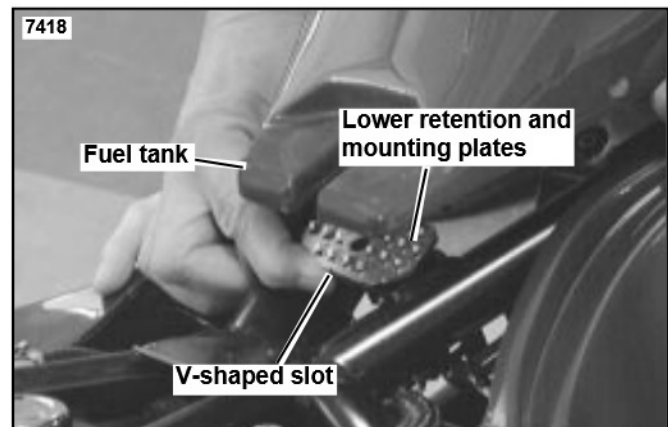

Figure 8. Bottom Plate
18. See Figure 8. Carefully raise the back of the fuel tank and place mounting plate and the lower retention plate in position on the frame. It is important that the prongs on the retention plate face toward the rear of the vehicle and be in contact with the fuel tank. Also, the shorter straight side of the mounting plate must face the rear of the vehicle.